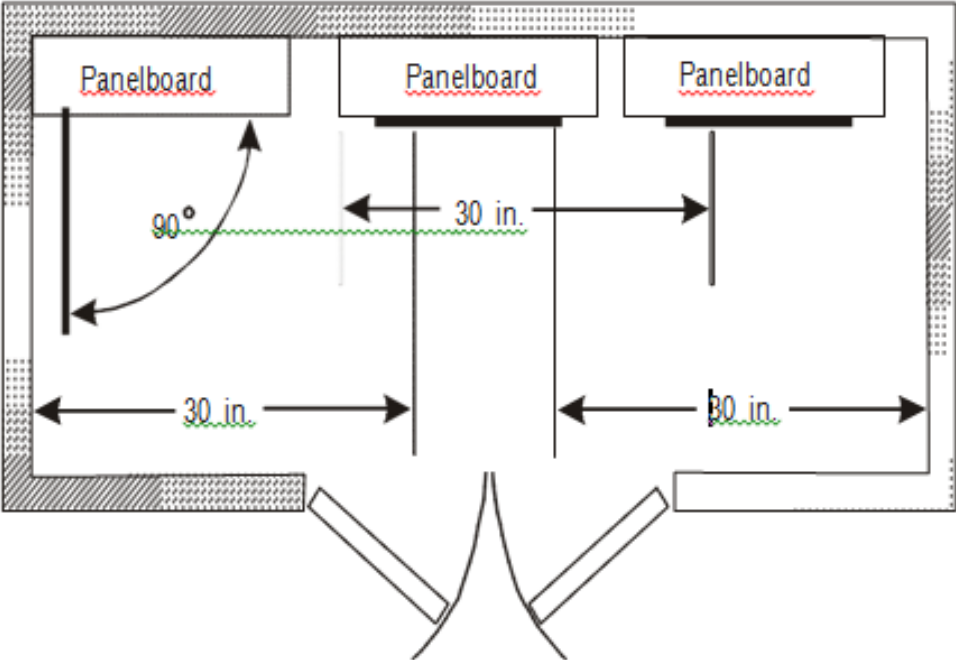

Figure 6.4 – Working space requirements for doors and hinged panels
- C. Doors and hinged panels** - Doors and hinged panels must have at least at least a 90-degree opening. Keep working space clear at all times. Do not store parts, tools, and equipment in the clear space (see figure 6.4).